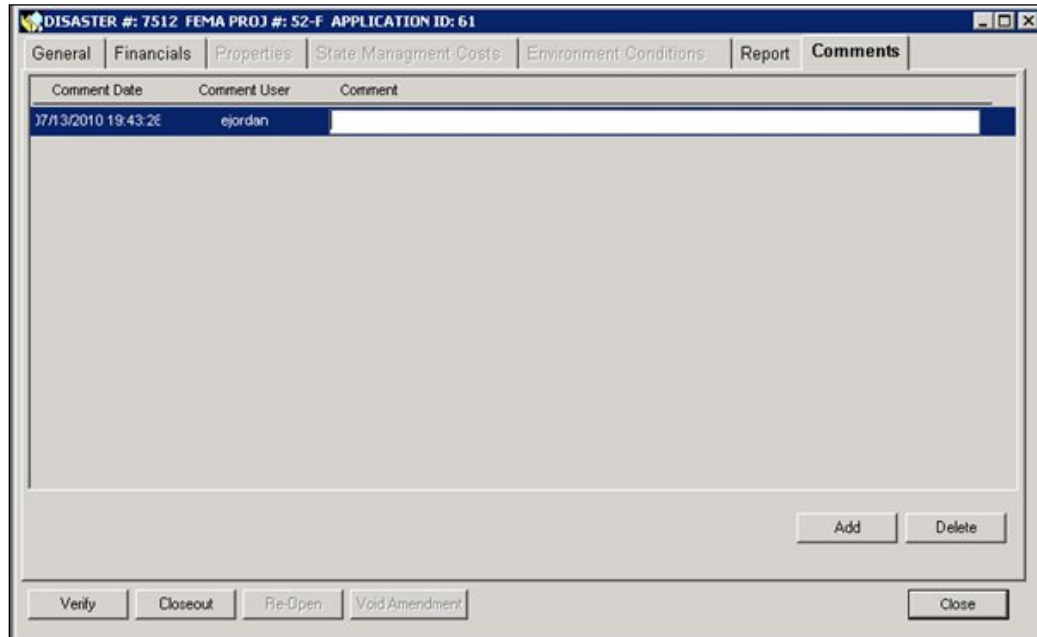

Figure 12-13: New Row for Comments
7. A new row for comments is added. The system auto-fills the Date and Time of entry and your User Name (Figure 12-13).